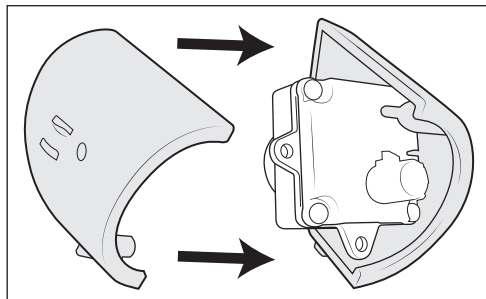

Figure 20
6. Install factory camera into clamshell mount (fig. 20) and plug into 90° connector on wiring harness.